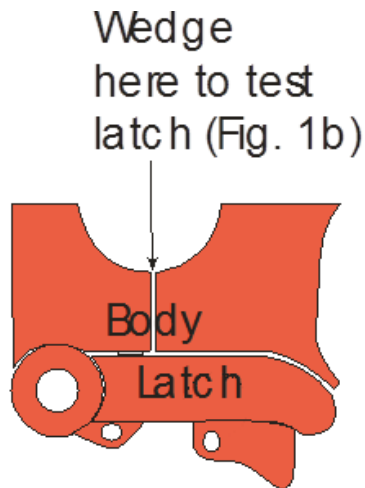

Figure 1: Latch Pry Test
3. Check that the latch is not forced outward when elevator body is wedged – top and bottom (Figure 1).